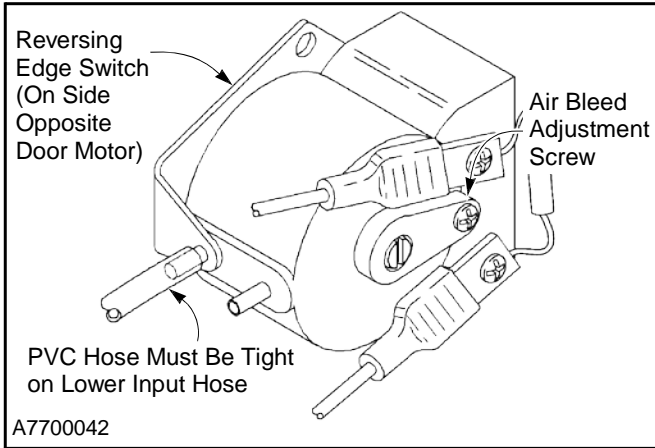

Figure 36
2. Make sure the clear PVC hose is in tight contact with the air input post so that air leakage cannot occur and that vibration will not cause the hose to fall off. Make sure the hose is not kinked. (See Figure 36.)
3. The air bleed has been set at the factory and should not require adjustment. To check the air bleed, turn the air bleed adjustment screws located on the front and back of the switch fully clockwise, but do not overtighten. Then turn the screws counterclockwise one full turn. (See Figure 36.)